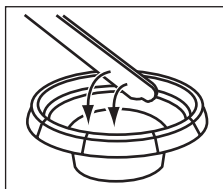

Figure 2
- 4) Scrape the two parts of the epoxy into the center of the cup and mix thoroughly (Figures 2 and 3). Note: Epoxy hardens quickly. Application time is 5 minutes at 70°F (21°C).